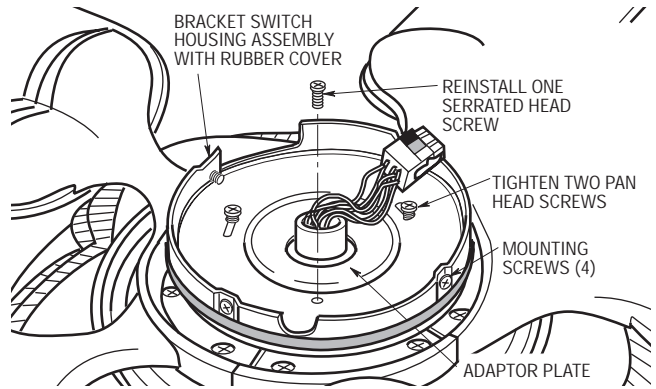

Figure 7
- 13. Turn the bracket switch housing assembly with rubber cover clockwise and tighten both screws (Figure 7). Reinstall the other serrated head screw in the remaining hole in the bracket switch housing assembly with rubber cover.